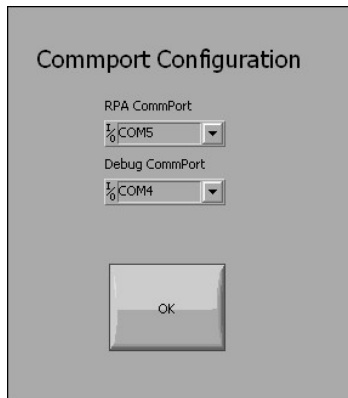

Figure 3 – ComPort selection window
2. The window depicted in Figure 3 below will automatically open. Use the arrow next to the RPA ComPort field to view all available ComPorts on the computer. (Note: This may take a minute for the computer to identify all available ports – please be patient.) Select the ComPort connected to the RPA's electronics chassis. The Debug Comport is only used during factory calibration and does not need to be configured. Press the 'OK' button when complete.